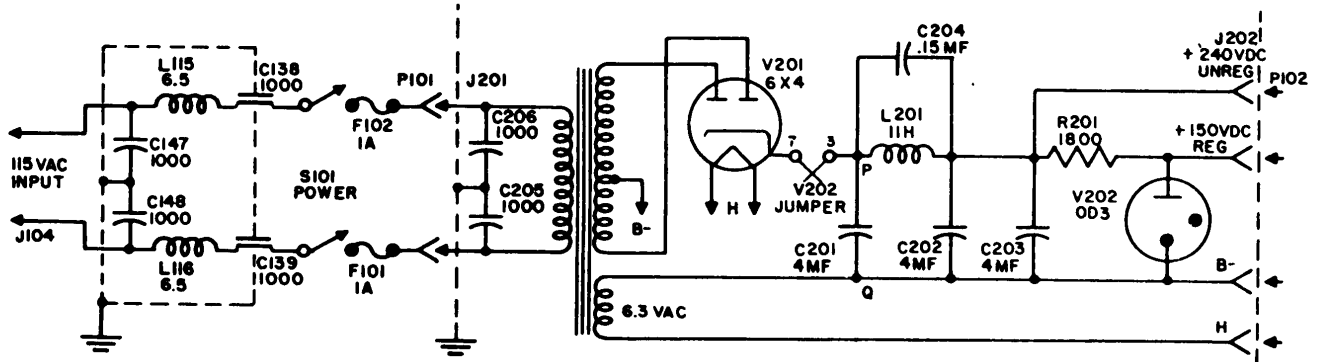

Figure 2-18. Schematic Diagram of the Power Supply PP-562A/URM-25.
(See figure 2-18).
The other end of this cable is soldered to the AC input fuses (F-101, F-102) located on the front panel of the signal generator. When the connector (P-101) is plugged into the power supply input power receptacle (J-201), this cable assembly (W-102) transfers AC power from the front panel to the rectifier sub-chassis. This interconnecting cable is connected in place and need not be installed prior to using the signal generator. A type OD₃ (V-202) regulator tube is used for maintaining a regulated 150 volt DC output to all tubes except the buffer-amplifier (V-104) and crystal calibrator V-108. The principal electrical features of the rectifier power unit are Section 2 Paragraph 13 shown in figure 2-18.
c. The plate supply voltage derived from the high voltage secondary and rectifier tubes (points PQ on figure 2-18) is approximately 240 %volts DC and must be reduced to the required 150 volts DC regulated supply for all tubes except V-104 and V-108. This voltage drop is achieved by the DC series dropping network (L-201, R-201). A PI filter consisting of a choke (L-201) and three 4 microfarad capacitors (C-201, C-202, C-203) is provided as a ripple filter. The two 4 microfarad capacitors (C-202, C-203) are connected in parallel to increase the effective capacitance. A single 8 microfarad capacitor would introduce a problem of physical location. An additional .15 microfarad capacitor (C-204) is inserted in parallel with L-201 to form a 120 cycle resonant filter. This resonant filter lowers the 120 cycle power supply hum level.
d. In a regulator tube such as the OD₃ (V-202), the voltage across the tube (150vDC) remains constant over a fairly wide range of current (5 to 40 ma) through the tube. This property exists because the degree of ionization of the gas in the tube varies with the amount of current that the tube conducts. When a large current is passed, the gas is highly ionized and the internal impedance of the tube is low. When a small current is passed, the gas is ionized to a lesser degree and the internal impedance is high. Over the operating range of the tube, the product ($I \times R$) of the current through the tube and the internal impedance of the tube is practically constant. If the supply voltage (points PQ on figure 2-18) drops, the voltage across the glow tube (V-202)